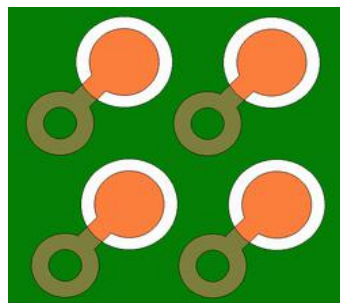

Figure 21: BGA Testing pad.
- [40] If an in circuit testing (ICT) point is added under the BGA, it is recommended to lead out the testing pad from the via hole as shown in figure 21. The diameter of the test pads should be 32mil with a solder mask opening of 40mil.